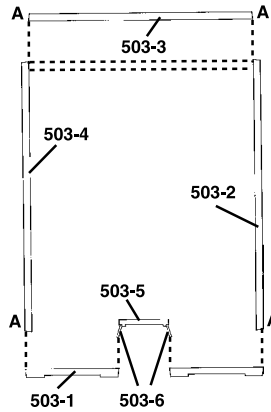

Fig. 1
**Side Panels:** Cut two entry door side panels (503-6) from white styrene stock (.156"x.02"). Make them the same height as the entry door casting (503-5). Glue the side panels to the entry door as shown (Figs. 1 and 4). Now glue the fronts of the side panels to the back of the entry opening on the building front (503-1).